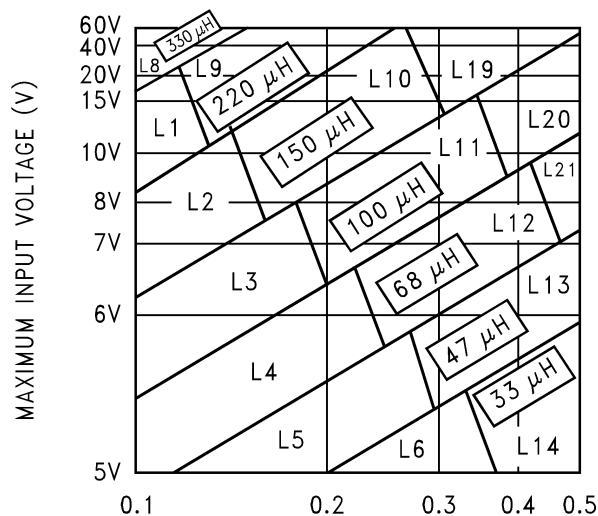
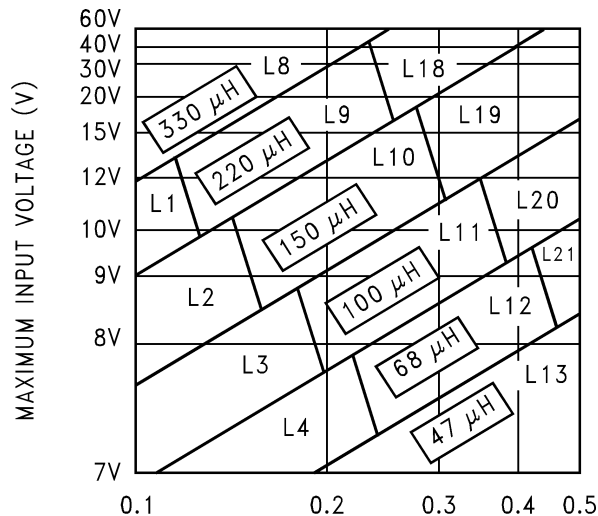
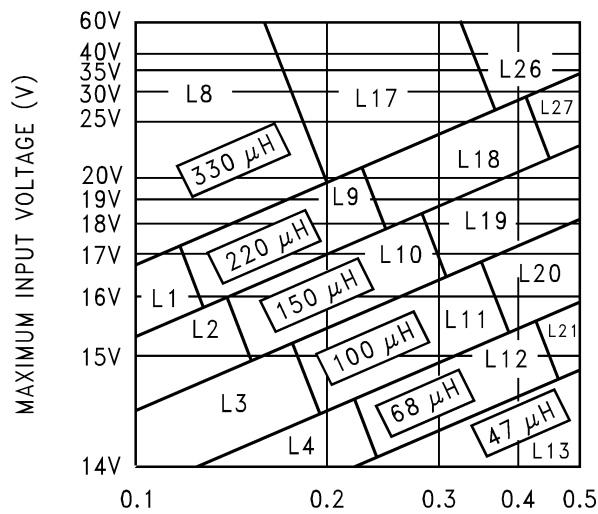

Figure 26. LM2597/LM2597HV-3.3
Figure 27. LM2597/LM2597HV-5.0
Figure 28. LM2597/LM2597HV-12
1. Inductor Selection (L1) A. Select the correct inductor value selection guide from Figure 26 , Figure 27 , or Figure 28 . (Output voltages of 3.3V, 5V, or 12V respectively.) For all other voltages, see the design procedure for the adjustable version. B. From the inductor value selection guide, identify the inductance region intersected by the Maximum Input Voltage line and the Maximum Load Current line. Each region is identified by an inductance value and an inductor code (LXX). C. Select an appropriate inductor from the four manufacturer's part numbers listed in Table 3 .	1. Inductor Selection (L1) A. Use the inductor selection guide for the 5V version shown in Figure 27 . B. From the inductor value selection guide shown in Figure 27 , the inductance region intersected by the 12V horizontal line and the 0.4A vertical line is 100 μ H, and the inductor code is L20. C. The inductance value required is 100 μ H. From the table in Table 3 , go to the L20 line and choose an inductor part number from any of the four manufacturers shown. (In most instance, both through hole and surface mount inductors are available.)